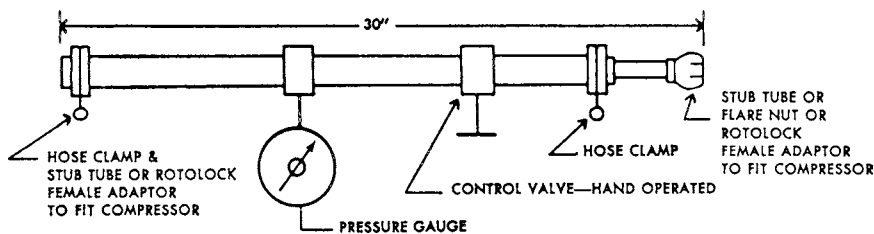

Fig. 12-28 Compressor test stand. (Tecumseh)
- One bypass line, including connector tube clamps for discharge and suction line, 200-psi pressure gage and control valves as shown in Fig. 12-28.